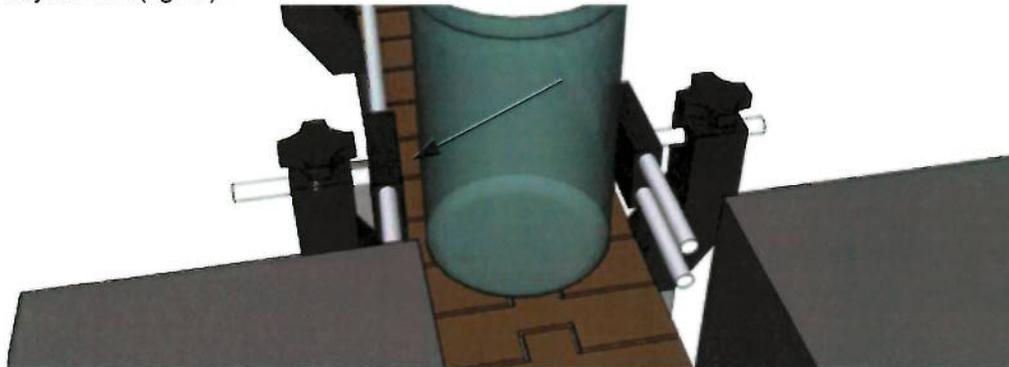

fig.16
- Place the container on the conveyor belt and position it near the knobs for a more accurate adjustment (fig.16) :